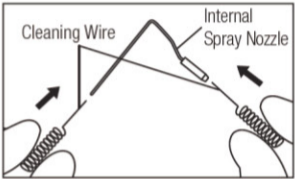

Fig. 13
- Internally clean the Internal Spray Nozzle and/ or the External Spray Nozzle by using Cleaning Wire. (Fig. 13,14) (E20L / E20)